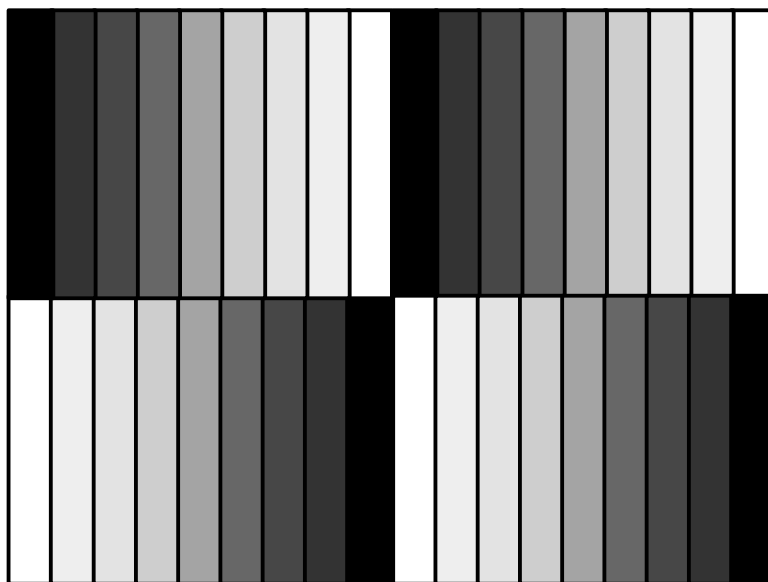

Figure 4-1. The Grey Scale test pattern has four sections of 9 color bars. Use the two darkest bars in the brightest section to set G2.
2. Select the Grey Scale test pattern. The Grey Scale test pattern has four identical sections of nine color bars each (*see Figure 4-1*), going from black to full brightness (white). Observing the **dark** bars in the **center** of the test pattern, adjust Green G2 for a distinct line between the two **darkest** bars and a *normal transition* from one bar to the other.